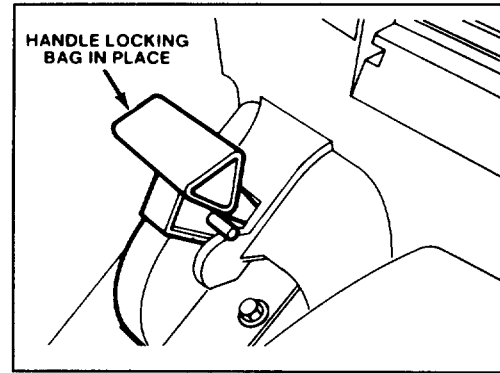

Figure 14
4. Pull chute door handle backward until pin locks bag in place (Fig. 14). Chute door in mower housing is now open.